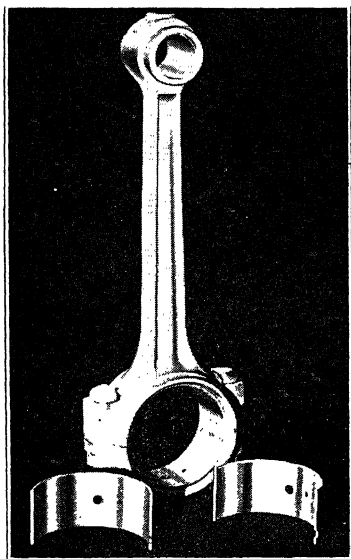

Fig. 2. 1937 Oldsmobile
**Oldsmobile Connecting Rods.** Fig. 2 illustrates the 1937 Oldsmobile connecting rods. The bearing shells lying in position near the big end of the rod are of thin-wall, steel backed, babbutt lined type. They are held in place in the big end of the rod by means
It will be noted in Fig. 2 that each of the thin bearing shells has